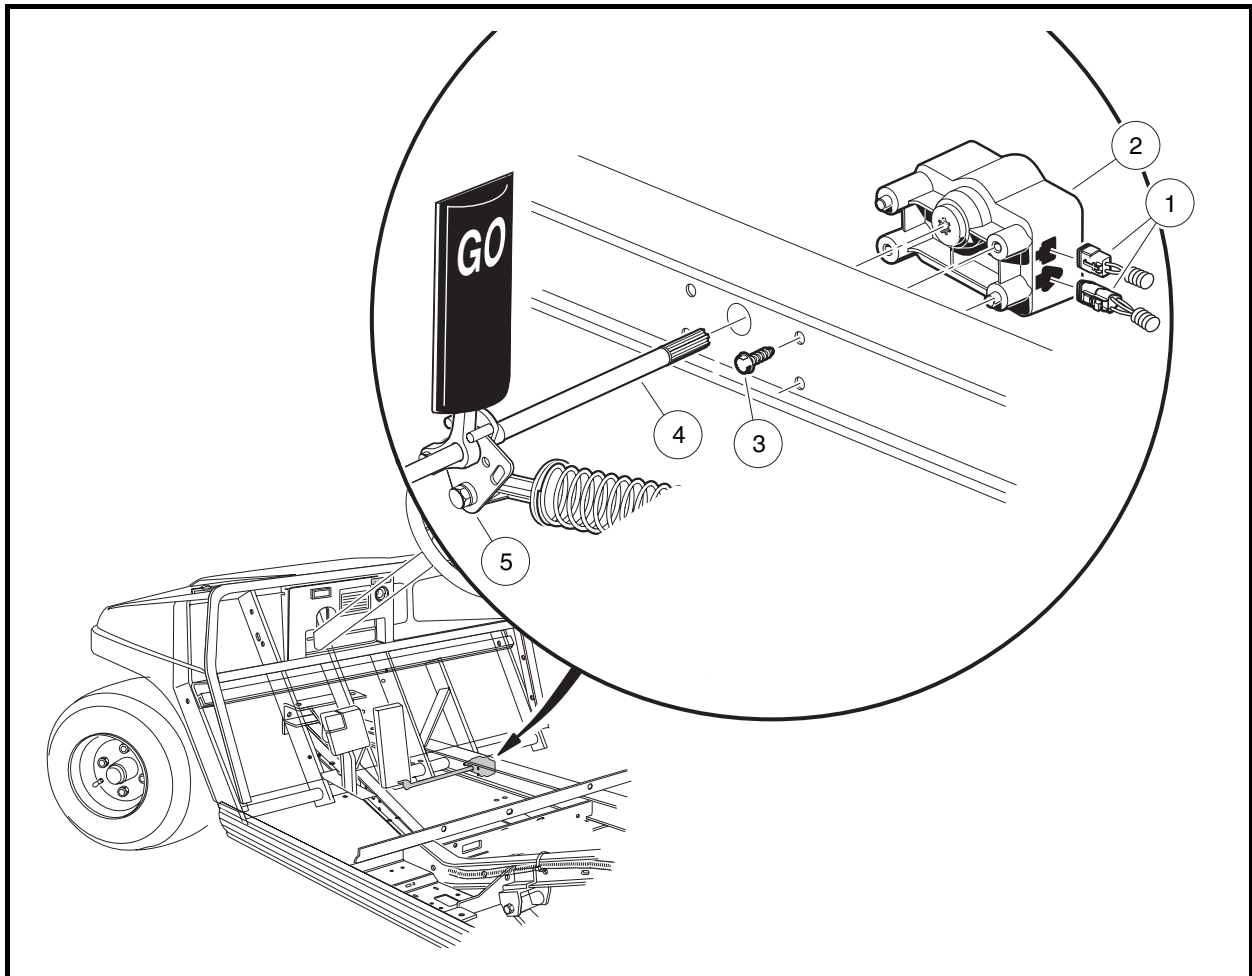

Figure 13-4 Motor Controller Output Regulator (MCOR) Mounting
3. Disconnect the two-pin and three-pin connectors (1) from the MCOR (2) (**Figure 13-4, Page 13-5**).
4. Remove the hex-head screws (3) connecting the MCOR to the frame I-beam.
6. Push the drive bar (4) into the hole in the I-beam to disengage it from the accelerator pivot rod (5).
1. Insert the splined end of the drive bar (4) through the hole in the passenger-side frame I-beam as shown (**Figure 13-4, Page 13-5**).
3. Place the MCOR (2) onto the splined end of the drive bar (**Figure 13-4, Page 13-5**). See following **NOTE**.
5. Secure the MCOR to the frame I-beam with two hex-head screws (3). Tighten screws to 23 in-lb (2.6 N·m).
6. Connect the two-pin and three-pin connectors (1) from the wire harness to the MCOR.